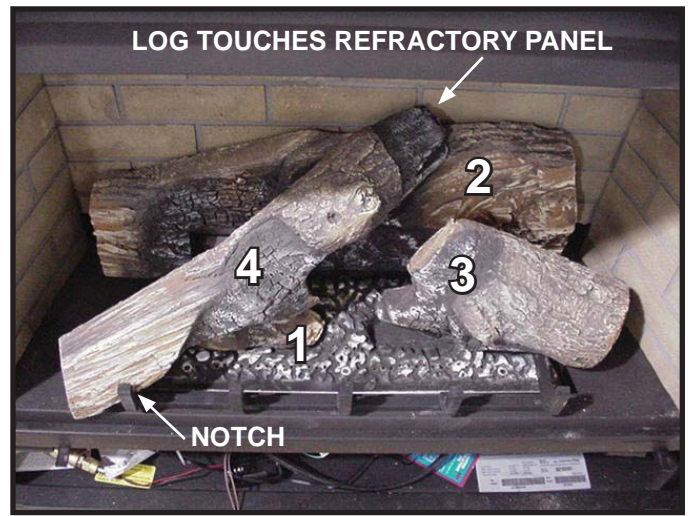

**Figure 1.**
**LOG #3 (SRV2066-702)** Place log #3 on right side of grate. The notch on the log should fit over the bar on the far right side of the grate. Push the right side of log #3 against the grate tab and pull the left side forward until it comes into contact with the burner detail as shown in Figure 1.